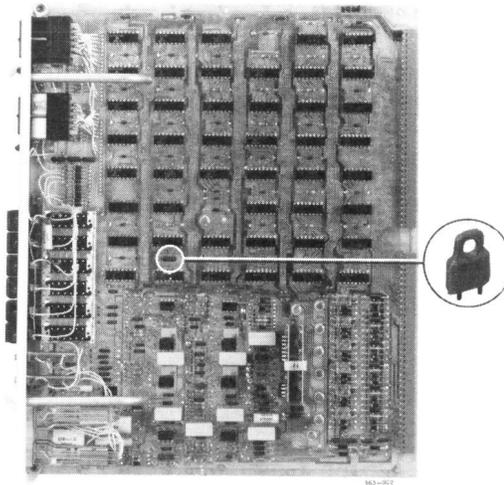

Fig. 2 — Removal of Shorting Link on QPP425
- (b) On the QPP425, remove shorting plug P4 (Fig. 2), and store it carefully for replacement after testing has been completed; or on the QPP450, set option selector S2, section 1 to ON.
- 12.2 On the QPP425, replace shorting link P4 (Fig. 2); *or*